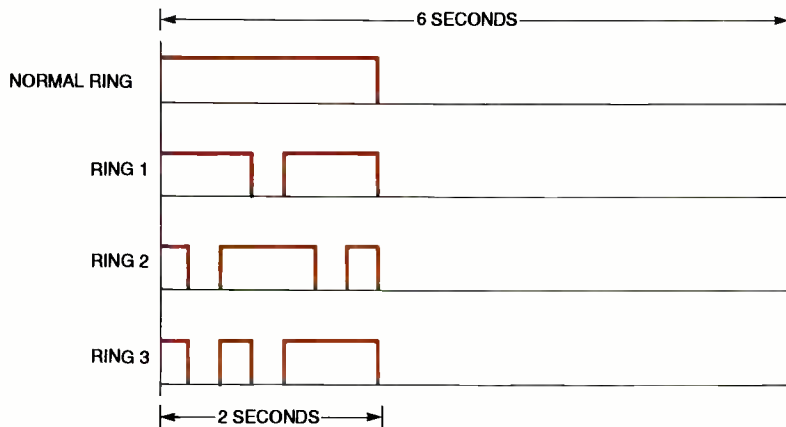

FIG. 2—FOUR DIFFERENT RING PATTERNS can be decoded with the Distinctive Ringing Decoder.
**FIG. 2—THE PRACTICAL GENERATOR** is considerably more complex than an ideal one. The actual spectrum consists of the fundamental frequency that we want, and other frequency components which we don't want.
the frequency. The four different ring patterns are shown in Fig. 2.